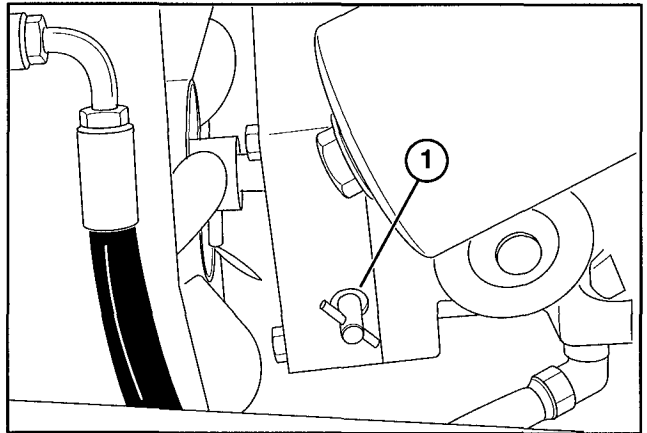

Figure 4
2. Rotate by-pass valve 1/2 turn counterclockwise (Fig. 4).